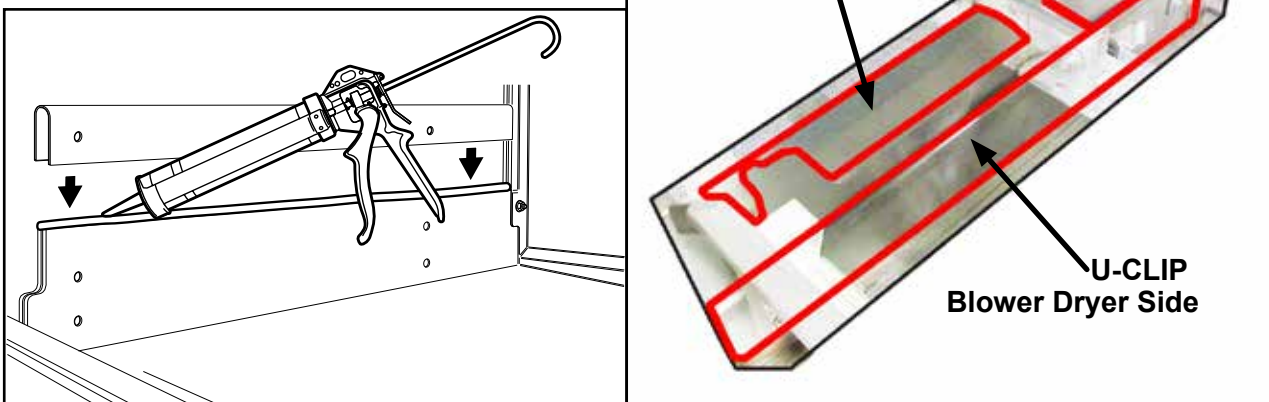

Fig. 5- Blower dryer load end baffle and U-clip installation.
5. Install the clip on the dishwasher and blower hoods. Install the baffle on the outside of the U-clip, (Fig. 5).
6. For standard hoods, install seventeen (17) bolts around the hoods. Use nineteen (19) bolts for a high-hood.